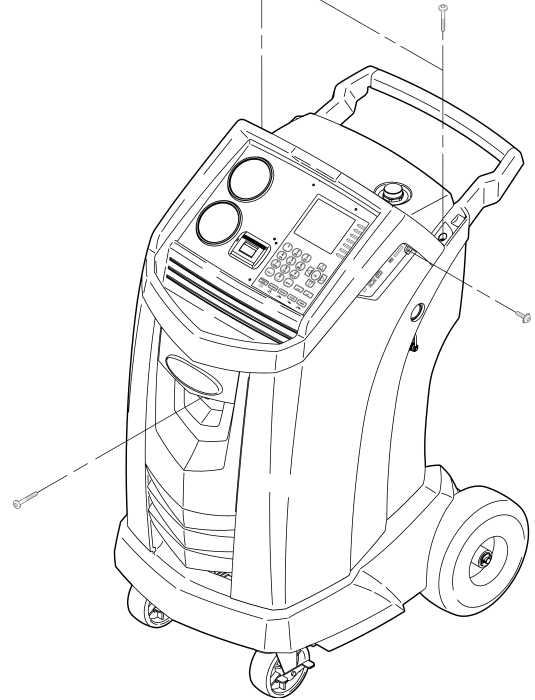

Figure 22
2. Remove the oil bottle, and remove the four screws holding the shroud. See Figure 22. Hang the shroud on the back of the machine.